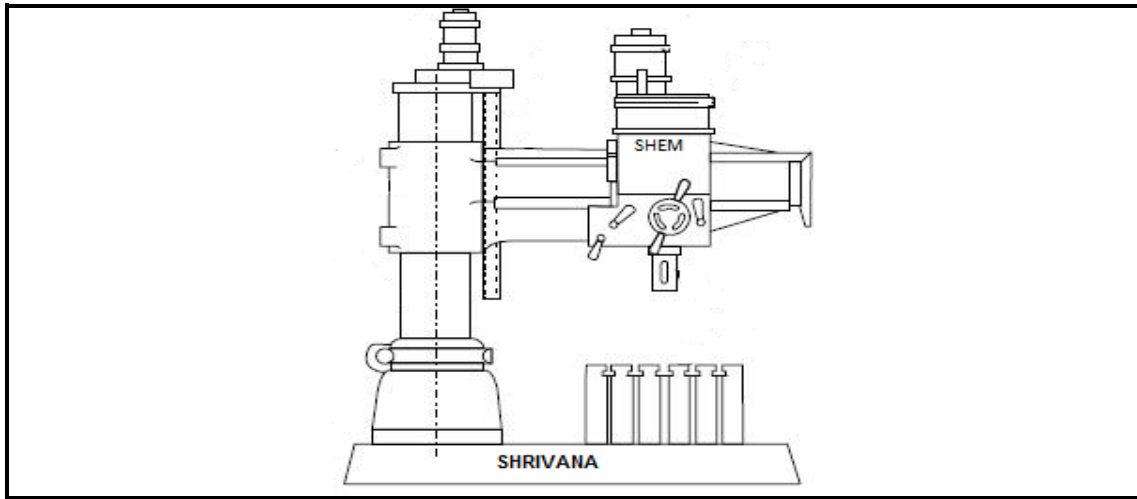

FIGURE 1
2.1 FIGURE 1 shows a radial-arm drilling machine.